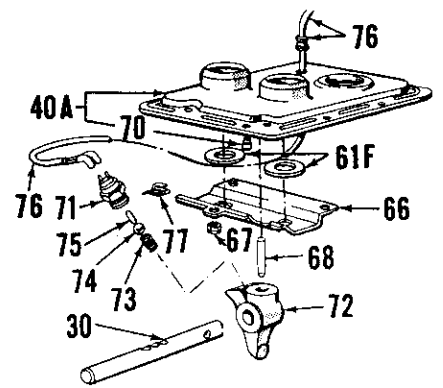

Fig. 200—Exploded view of late production pressed steel shift cover assembly. Refer to Fig. 199 for cast iron cover.
1.320 on models with cast iron cover (10). Tighten safety switch retainer, roller support and shift lever stop plate cap screws to a torque of 14-17 Ft.-Lbs. When reinstalling cover, install dowel cap screw without a washer in left rear corner of cover and install cap screws with lockwashers in remaining holes. Tighten dowel cap screw first, then tighten remaining cap screws to a torque of 23-29 Ft.-Lbs. Be sure that engine starter can be engaged only when main gear change lever is in neutral position.
On late production transmissions, unbolt and lift shift cover assembly, then disconnect wiring (76—Fig. 199 or 200) from starter safety switch (71), then remove shift cover from transmission. The starter safety switch can now be serviced at this time. Other than components shown in Figs. 199 or 200, shift lever assemblies are same as shown in exploded view in Fig. 198. When reinstalling cover, be sure that dowel pin (70—Fig. 199 or 200) and switch retainer locating pin 69—Fig. 199 or 68—Fig. 200) are in place and reconnect wiring to starter safety switch. Be sure dowel pin and retainer locating pin properly engage shift cover as it is being lowered into place. Tighten cover retaining cap screws to a torque of 23-29 Ft.-Lbs. Be sure that starter will engage only when high-low shift lever is in neutral position.